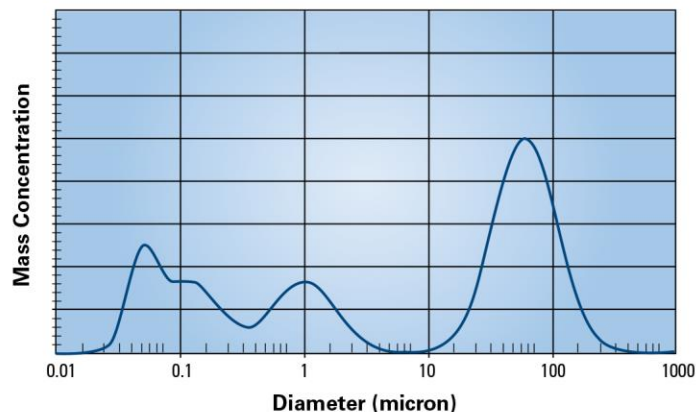

Figure 1: Hypothetical mist and smoke droplet size distribution from metalworking operations.
- **Mist droplet size distribution** – in general it is easier to capture larger droplet sizes, but large droplets also can be a significant contributor to the overall mass of liquid contained in the mist, which must eventually drain from the collector. Figure 1 shows a hypothetical mist and smoke droplet size distribution.